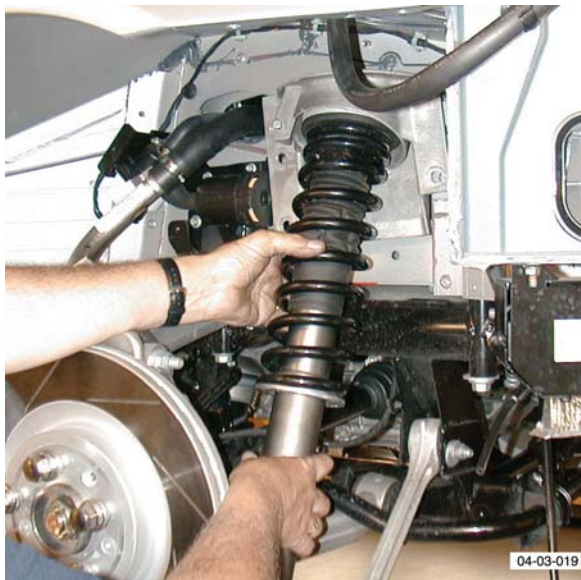

Fig. 8
- Remove spring and damper assembly (see Fig. 8).